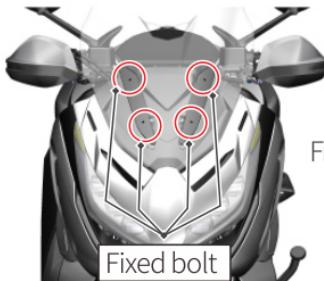

Figure 1
1. First, raise the windshield to the highest position, then turn off the vehicle power, and remove the windshield(Fig 1:The red circle is the fixed bolt)